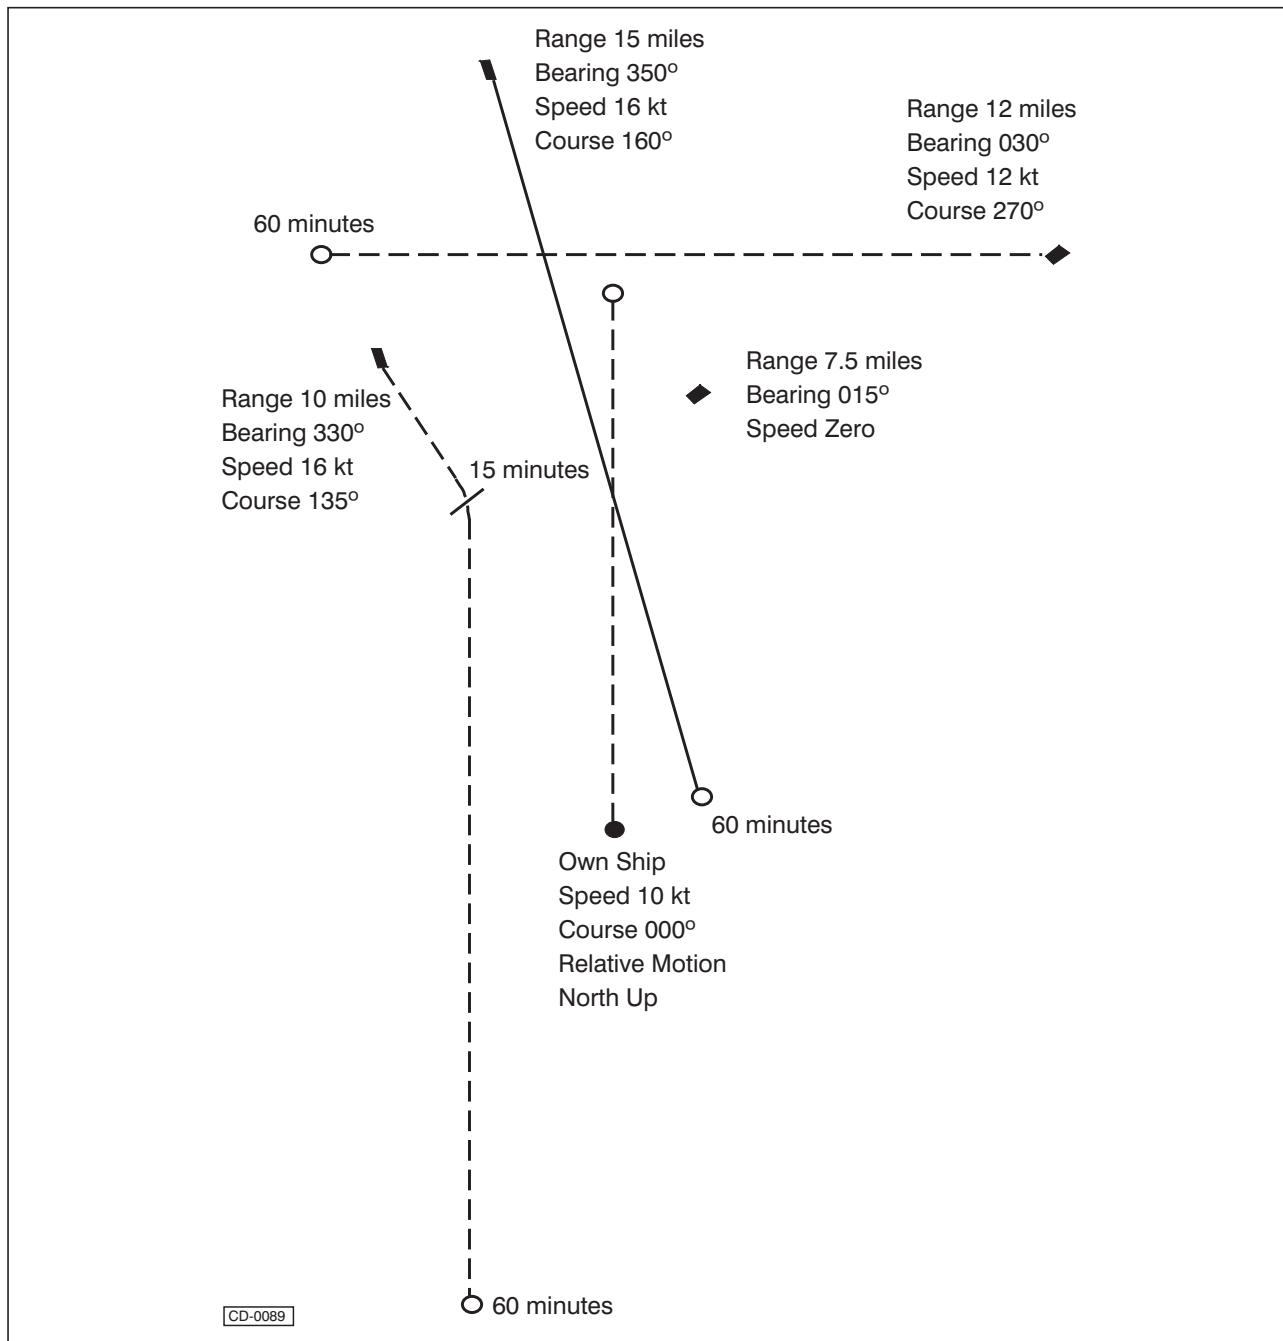

Figure 2 - Four Target Simulation Mode - Known Scenario
- 67 Based on a known situation this scenario shows the targets moving within a 15 mile radius of the radar origin, refer to Figure 2 - Standard Simulation Mode - Known Scenario.